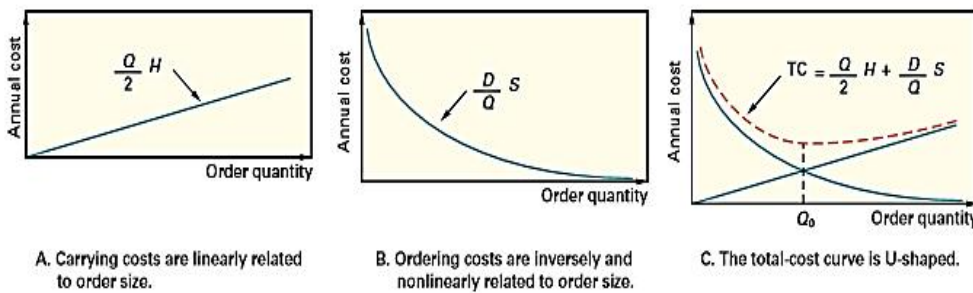

Figure 7.4: Graphical representation of costs related to EOQ
As shown in Figure 7.4 A, carrying costs are a linear function of  $Q$ : they increase or decrease in direct proportion to changes in order quantity  $Q$ . Annual ordering costs, on the other hand, will drop as order size grows since, for a given annual demand, the larger the order size, the fewer orders are required.
Annual ordering cost is inversely related to order size, as shown in Figure 7.4 B, because the number of orders each year,  $D/Q$ , reduces as  $Q$  grows. When  $Q$  units are ordered each time, the total annual cost (TC) of carrying and ordering inventory is
(Note that  $D$  and  $H$  must be expressed in the same units, such as months and years.) The total cost curve is U-shaped (i.e., convex, with one minimum) and achieves its minimum at the quantity when carrying and ordering costs are identical, as shown in Figure 7.4 C. Calculus can be used to find an expression for the optimal order quantity,  $Q$  as given below in the formula.